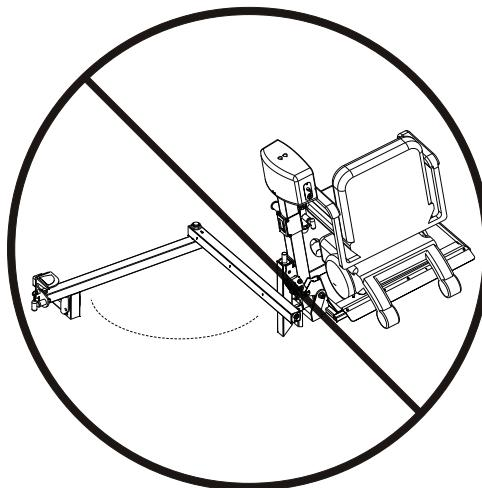

Figure 7-7
*NEVER open the Swing-Away with the mobility device on the lift. Opening the Swing-Away with the mobility device on the lift will damage the Swing-Away and the lift and will potentially damage the vehicle and the mobility device. Any of these actions will VOID the warranty. See Figure 7-7.*